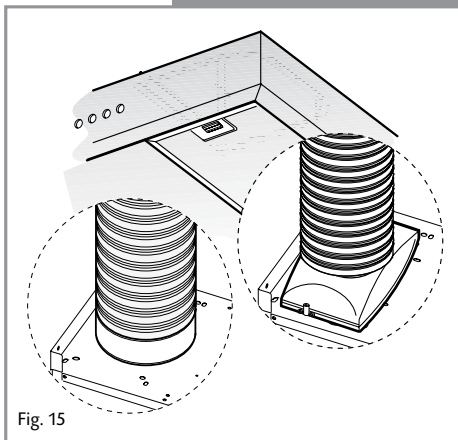

Fig. 15
15. Connect the ducting pipe to the motor as shown in Fig 15.